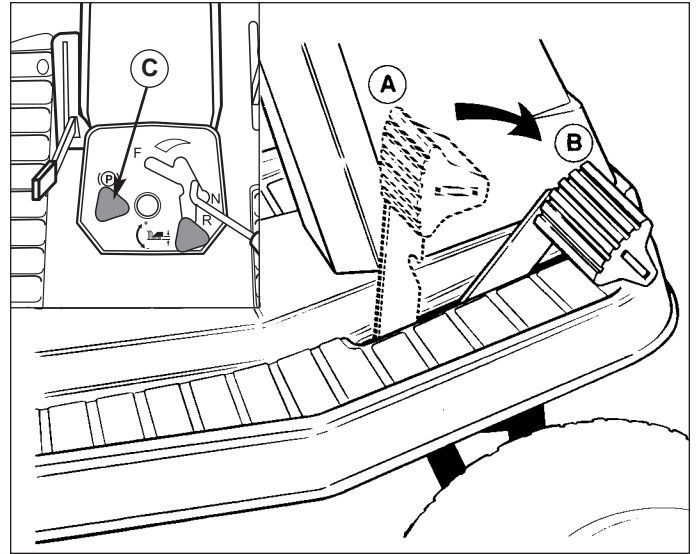

Figure 2. Brake Pedal
1. See Figure 2. Depressing the pedal from position A to B disengages the transmission drive and also returns the transmission control lever to neutral (from forward speeds). Fully depressing the pedal to position B applies the rider brake.
2. See Figure 2. Parking brake is applied at pedal position B when parking brake control knob (C) is pulled up with pedal fully depressed.